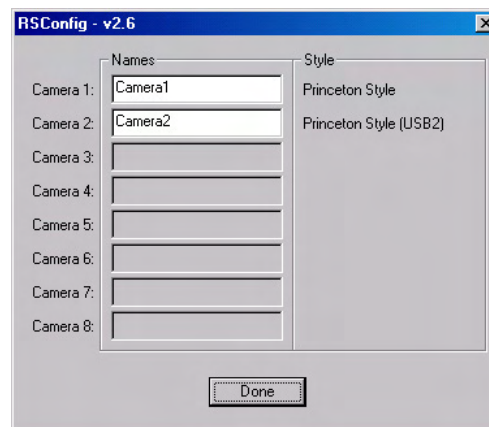

Figure 214. RSConfig dialog box: Two Camera Styles
4. When the RSConfig dialog box (Figure 214) appears, you can change the camera name to one that is more specific or you can keep the default name "Camera2". When you have finished, click on the **Done** button. You will next edit the generated PVCAM.INI file.